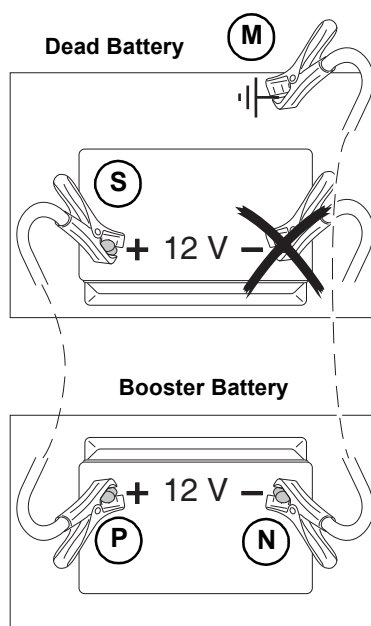

Fig. 43 – Booster Battery Connection
4. Connect the positive jumper cable to the positive (+) terminal (S, Fig 43) on the discharged battery.